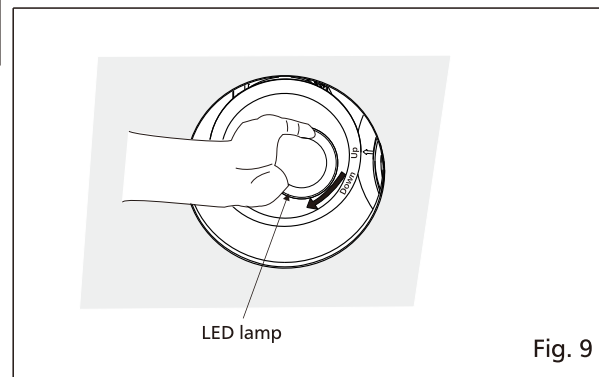

Fig. 9
12. Install the supplied LED lamp. (Fig. 9)